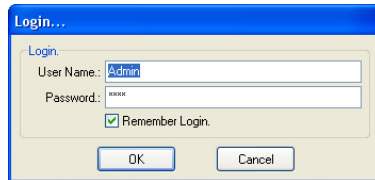

Figure 11: The Login dialog.
- When you apply the changes you will be asked for the user name and password. (*Figure 11*).